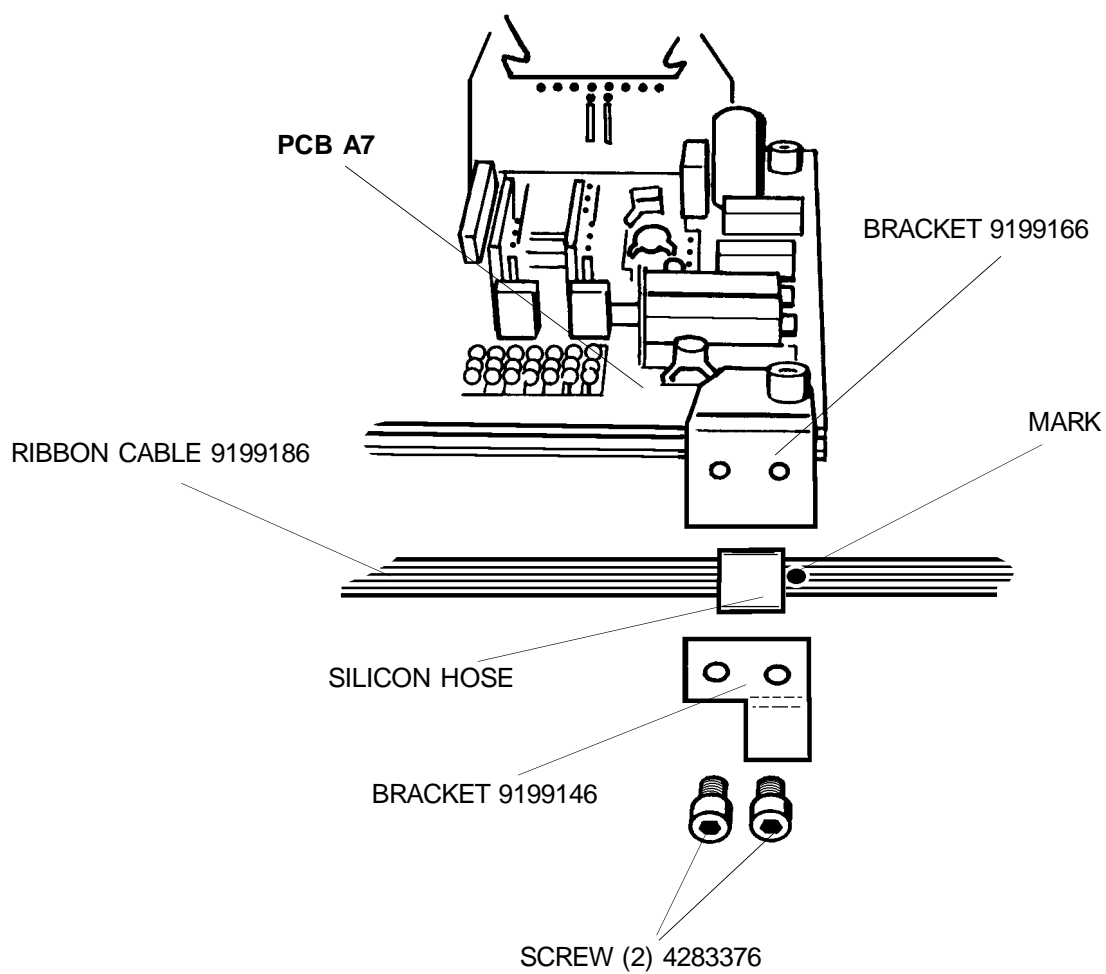

figure 8
- 12.** Fix RIBBON CABLE 9199186 on BRACKET 9199166 using BRACKET 9199146 and two SCREWS 4283376. Check that SILICONE HOSE is centered below BRACKET 9199146 and that MARK on RIBBON CABLE is on the same position as shown on figure 8 and 9.